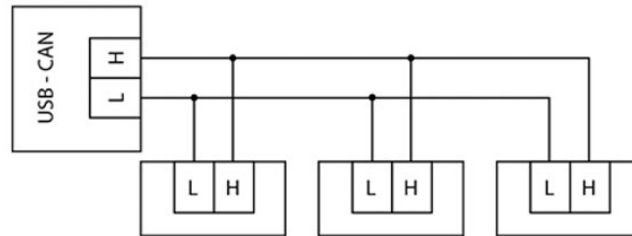
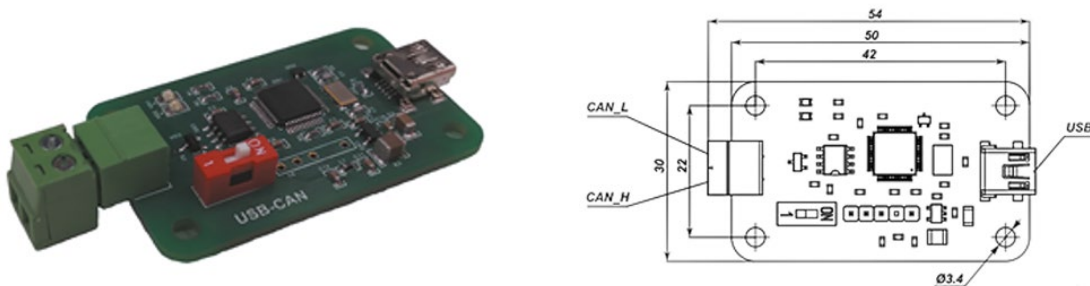

Figure 10: CAN interface connection scheme
Figure 11: USB-CAN hub
2. Connect up to 200 drivers into the CAN network (fig. 10) by using the CAN hub (fig. 11).